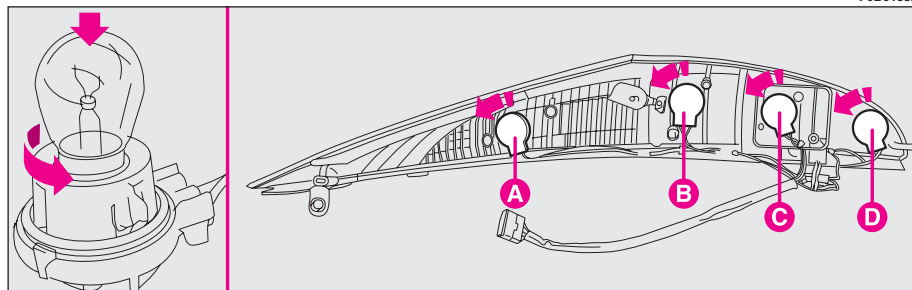

fig. 26
– Take off the bulb holders by turning them slightly anticlockwise **fig. 26**: